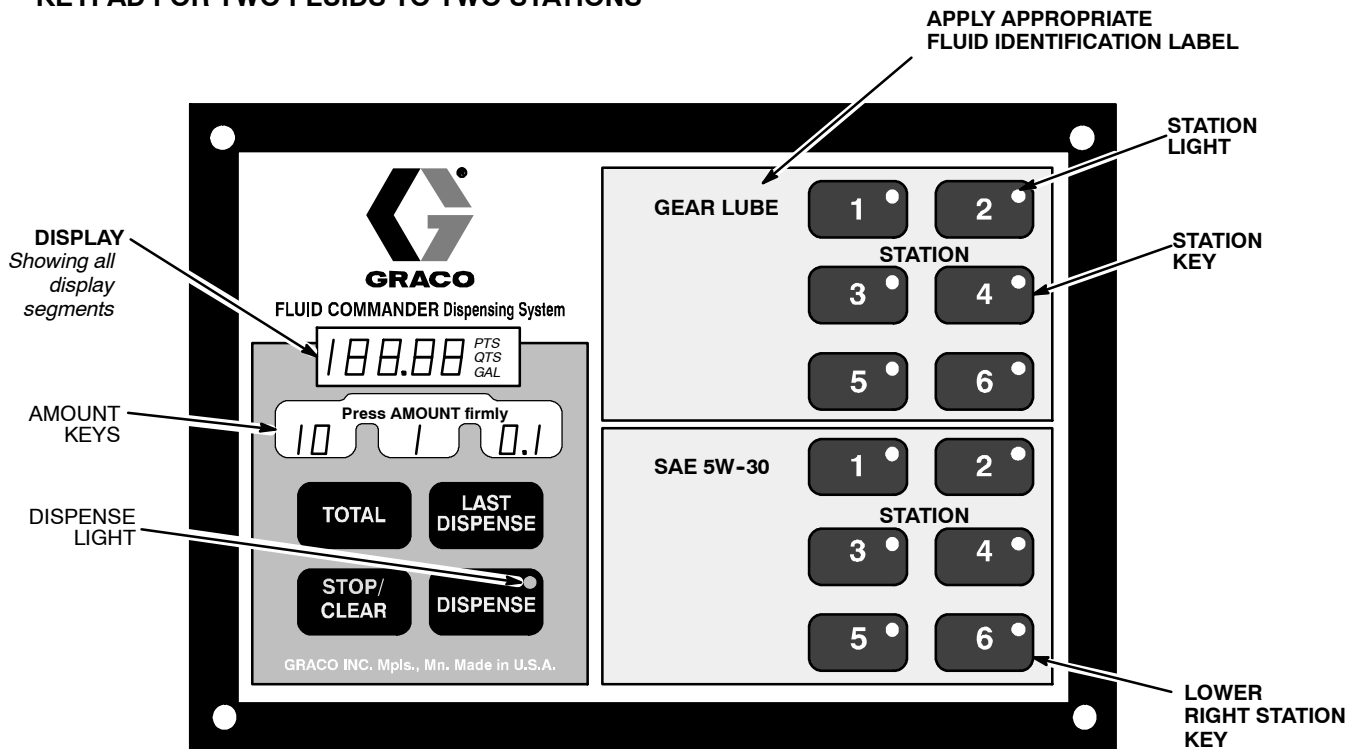

Fig. 3
Determine what fluids will be dispensed, and apply the appropriate labels within the raised area on the control, next to the station pads. See Fig. 3, page 11.
**NOTE:** Refer to Fig. 3, page 11.